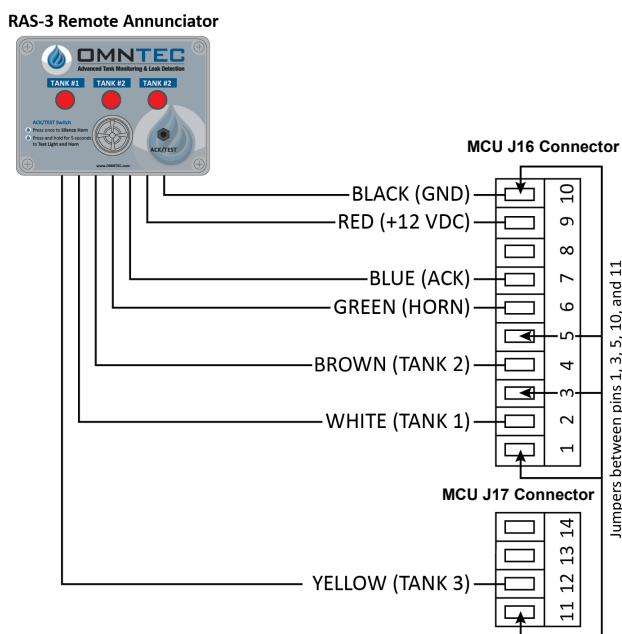

Figure 1.3.4
3.3 RAS-3 High-Level Alarm Wiring (refer to Figure 1.3.4 and Table 1.3.4)